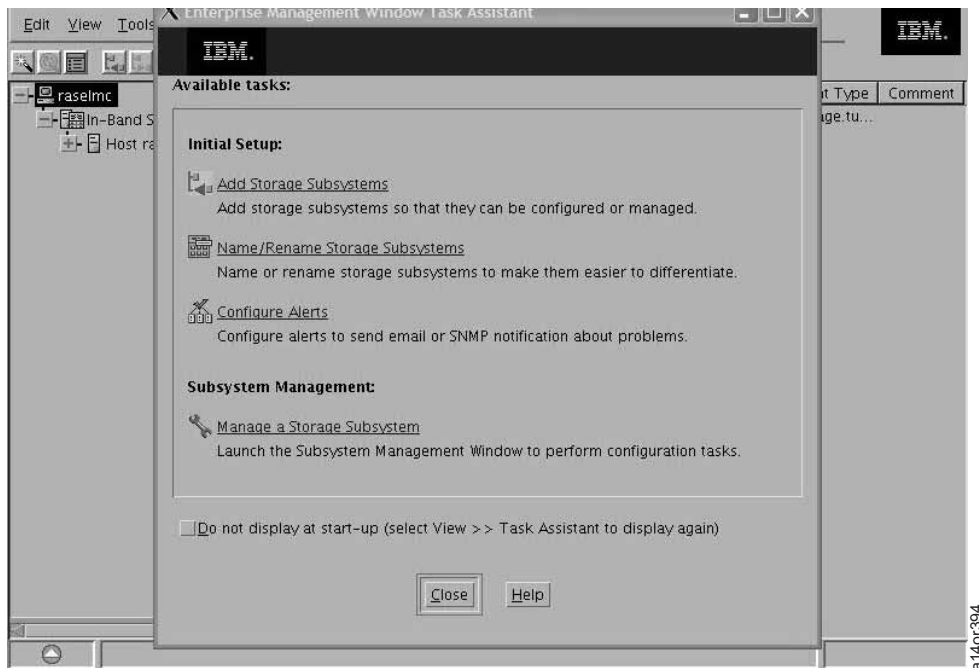

Figure 3-92. Storage Manager GUI Initial Screen
4. From the Main Menu, select **Browser Functions > Storage Manager GUI Functions > Launch GUI**. You see the browser window in Figure 3-92 on page 3-72.